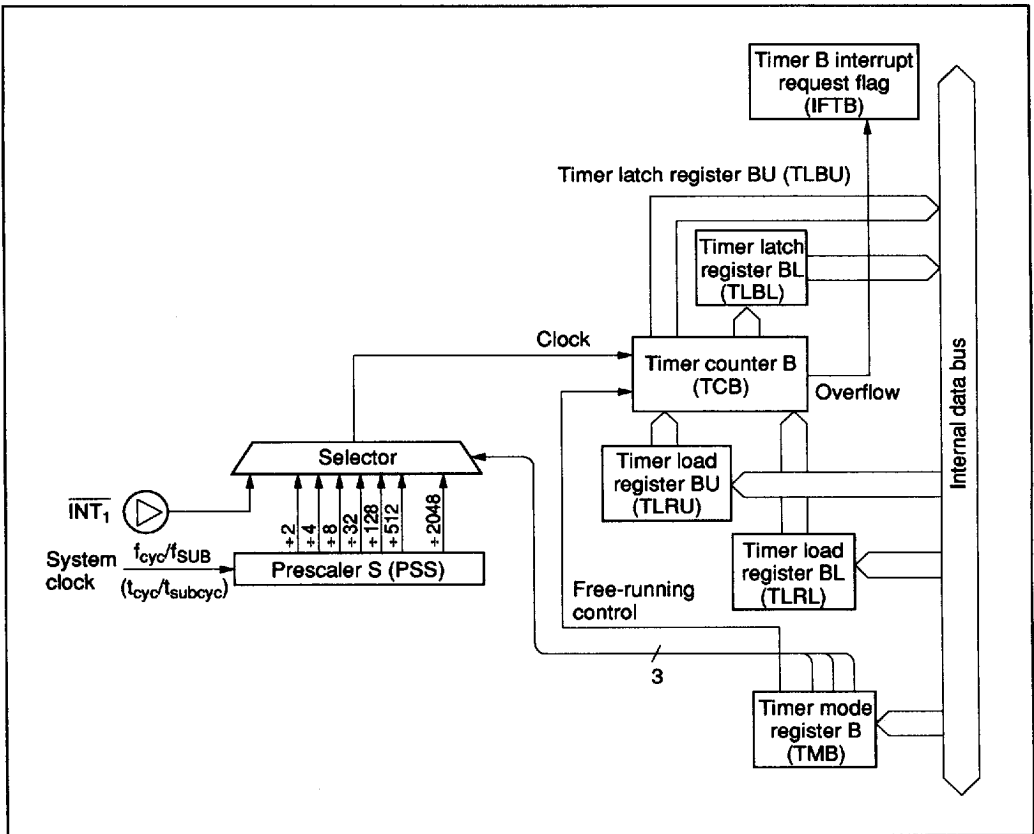

Figure 26 Timer B Block Diagram
**Timer B Operation:** Timer mode register B (TMB: \$009) selects the auto-reload function, input clock source, and prescaler divide ratio for timer B. When an external event input is used as an input clock signal to timer B, select R33/ $\overline{INT}_1$  as  $\overline{INT}_1$  by port mode register A (PMRA: \$004) to prevent an external interrupt request from occurring (figure 26).
**Timer B (TCBL: \$00A, TCBU: \$00B, TLRL: \$00A, TLRU: \$00B):** Timer B consists of an 8-bit write-only timer load register, and an 8-bit read-only timer counter. Each of them has low-order digits (TCBL: \$00A, TLRL: \$00A) and high-order digits (TCBU: \$00B, TLRU: \$00B). (Refer to figure 26.)